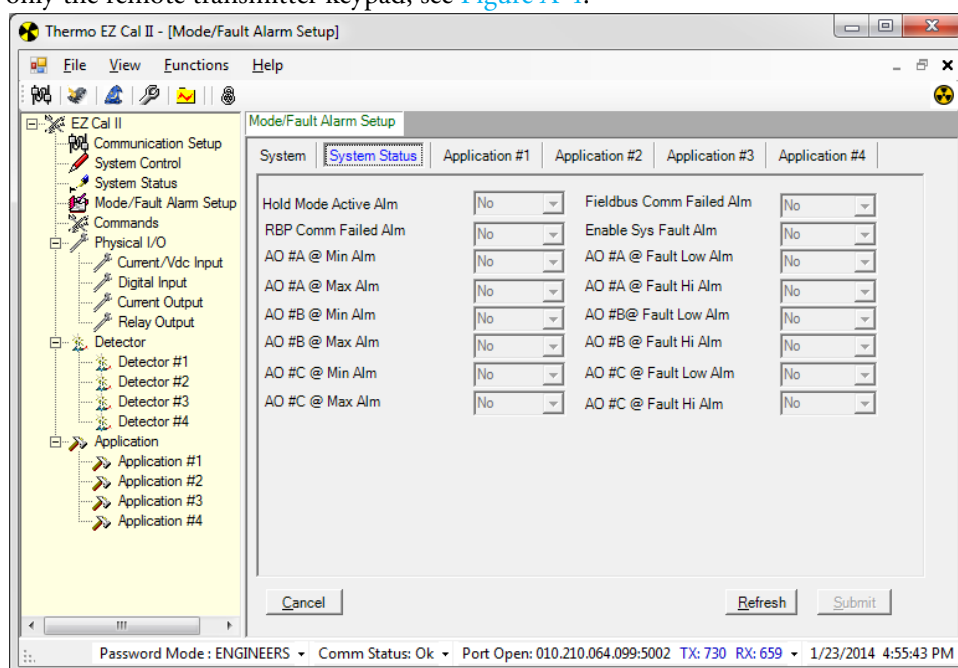

Figure 4-7. Mode/Fault Alarm Setup, System Status Tab
- The System Status tab, shown in Figure 4-7, displays the alarms from the System screen and shows whether or not the alarms are currently in an active state.